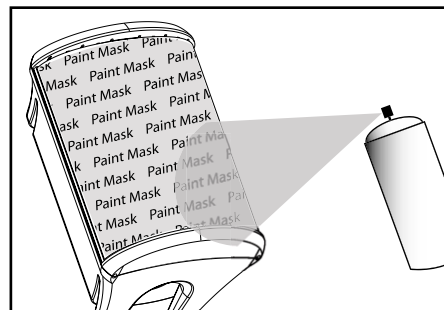

FIGURE 7
2. When the primer is completely dry, apply the finish color [figure 7].